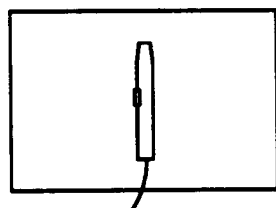

Fig. 1
2. Lay the pencil body in the center of the wrapping material as shown. (Fig. 1)